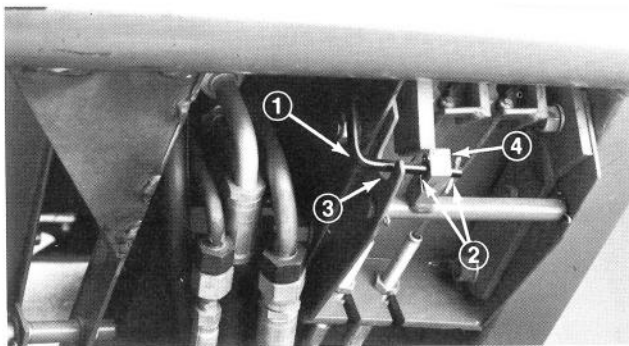

Figure 2
7. Install cotter pin (3/32 x 1/2 in. — 2.4 x 13 mm) through hole at top of parking brake rod. Install another cotter pin (3/32 x 1/2 in. — 2.4 x 13 mm) through inside hole at L-shaped end of brake rod (Fig. 2).
9. Slide top of rod up the steering tower and bottom of rod between cutout in brake mount and through hole in parking brake latch. Secure with cotter pin (Fig. 2).